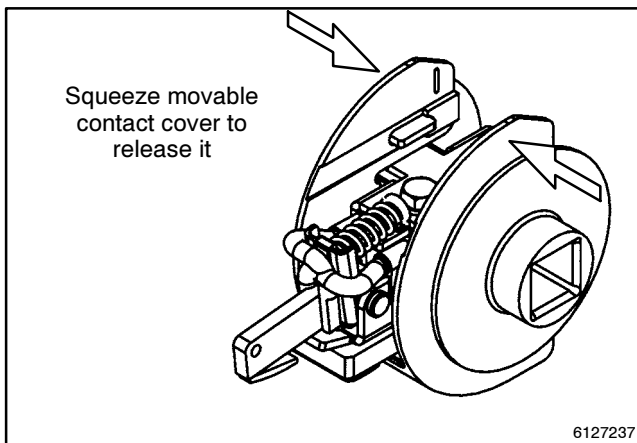
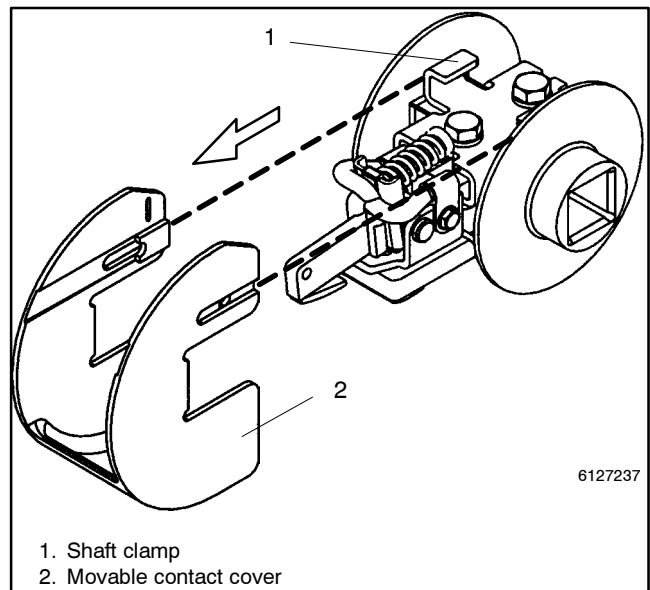

Figure 8-6 Movable Contact Cover Release
Figure 8-7 Movable Contact Cover Removal
5. Remove the movable contact cover. Use your thumb and fingers to squeeze the sides inward until the contact cover is released from the shaft clamp (both sides). Then remove the movable contact cover. See Figure 8-6 and Figure 8-7.
8. Install the new movable contact cover onto the movable contact assembly. Use your thumb and fingers to squeeze the sides inward until the contact cover is latched onto the metal bracket (both sides). See Figure 8-6 and Figure 8-7.
9. Install the new movable contact cover. Install the new movable contact cover onto the movable contact assembly. Use your thumb and fingers to squeeze the sides inward until the contact cover is latched onto the metal bracket (both sides). See Figure 8-6 and Figure 8-7.